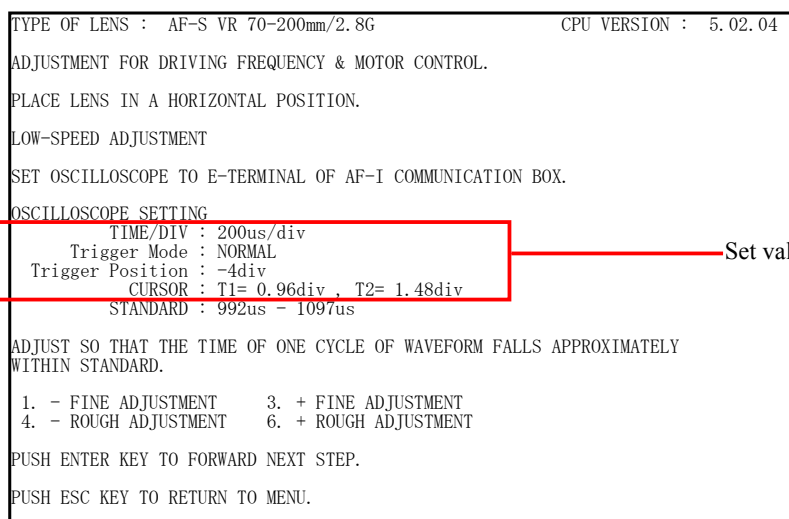

Fig. 2
1. Based on “Fig. 2” on the screen, set the low-speed adjustment for lens and oscilloscope.
As shown in Fig. 2, “div” value within standard is displayed on PC screen.
The standard value, TIME/DIV, and CURSOR(T1,T2) varies according to the conditions of low-speed adjustment, high-speed adjustment, and other lenses, etc, so check by Fig. 2 of the PC screen when adjustment is made.